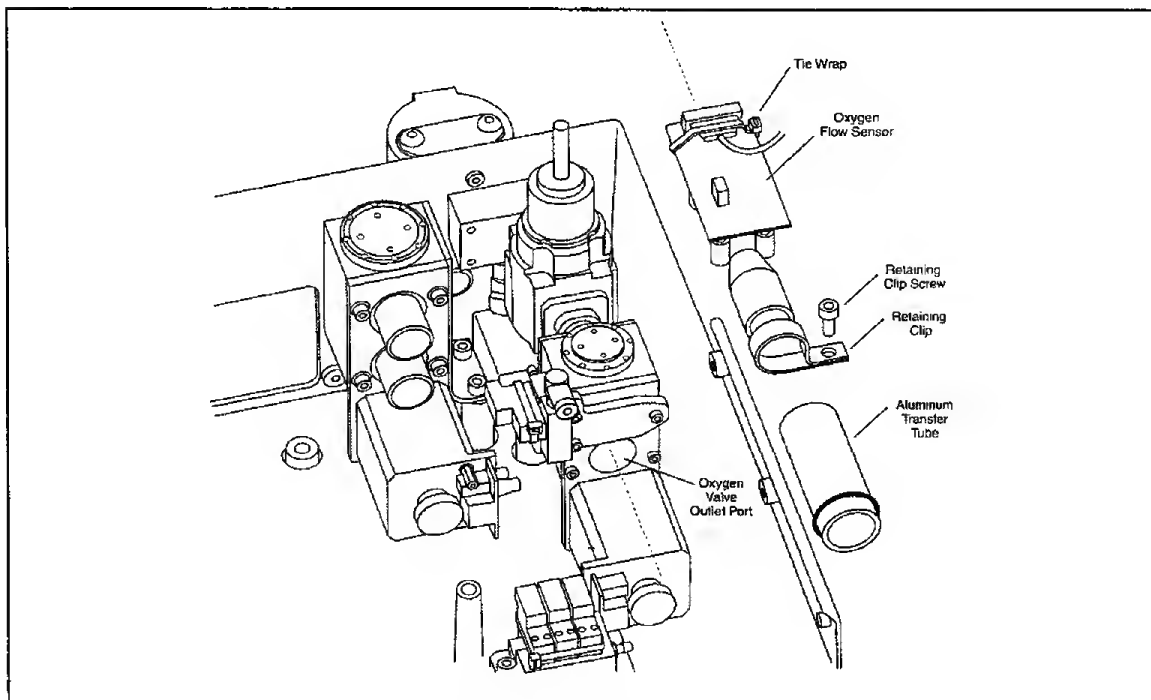

Figure 7-24: Oxygen Flow Sensor
(Refer to Figure 7-24)
1. Check the two o-rings on the aluminum transfer tube for cracks or deformation. Replace as necessary. Lightly lubricate the o-rings (see Figure 7-24).